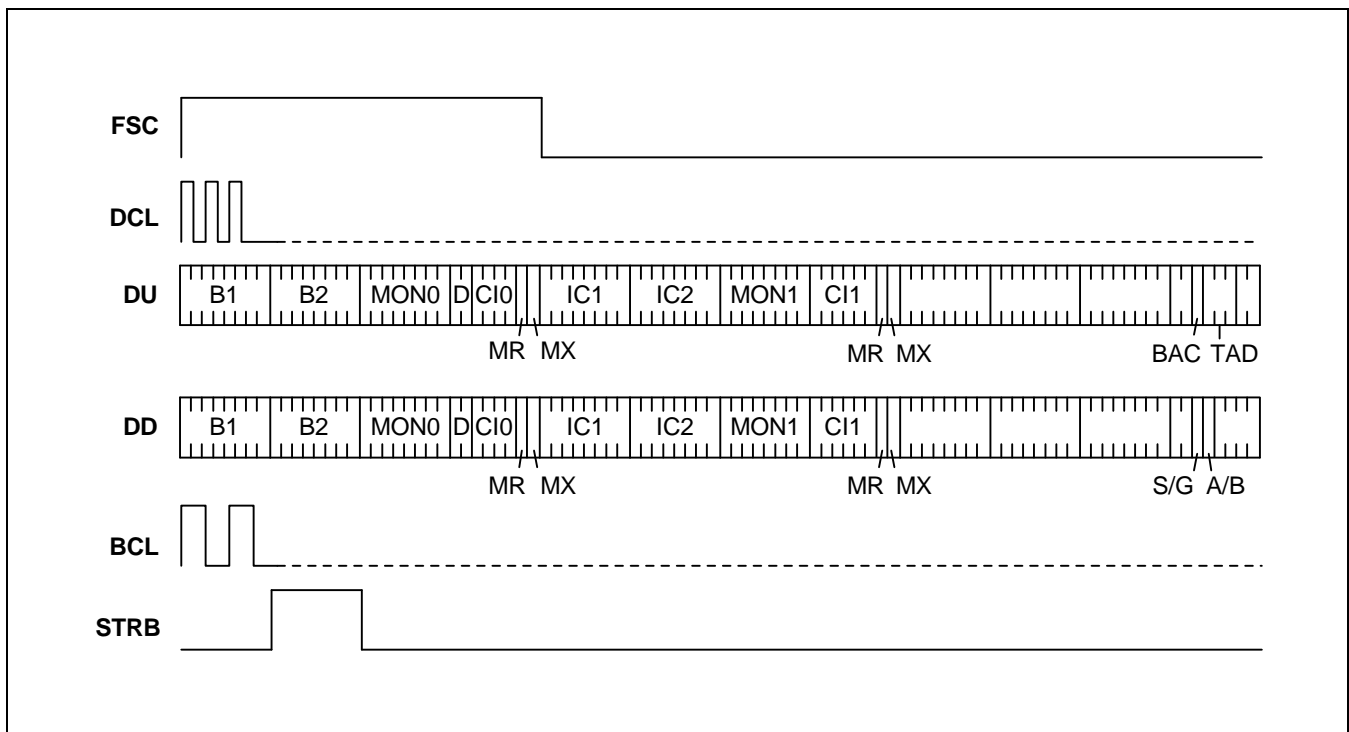

Figure 9-1. IOM2 Channel Structure in Terminal
The IOM2 bus provides a symmetrical full-duplex communication link, containing user data, control/programming, and status channels. Both the line card and terminal portions of the IOM2 standard utilize the same basic frame and clocking structure, but differ in the number and usage of the individual channels. The various channels are time-multiplexed over a four-wire serial interface. Data is clocked by a Data Rate Clock(DCL) that operates at twice the data rate. Frames are delimited by an 8-kHz Frame Synchronization Clock(FSC). Data is carried over Data Upstream(DU) and Data Downstream(DD) signals. Three additional signals are specified in the terminal mode to facilitate connecting components that do not directly support IOM2. These are a 1x-Bit rate Clock (BCL), and two Serial Data Strokes that identify the location of the B channels (SDS1 and SDS2). The S3C2500B includes two optional signals, BCL and SDS1. SDS1 is called STRB in S3C2500B. In S3C2500B, the terminal mode operation is supported but line-card mode is not supported. Figure9-1 shows the IOM2 channel structure in terminal mode.